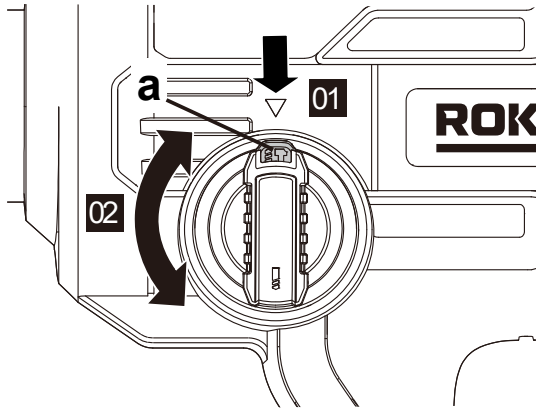

Figure 7
4. SELECTING HAMMER DRILL / DRILL FUNCTION (SEE FIG. 7)